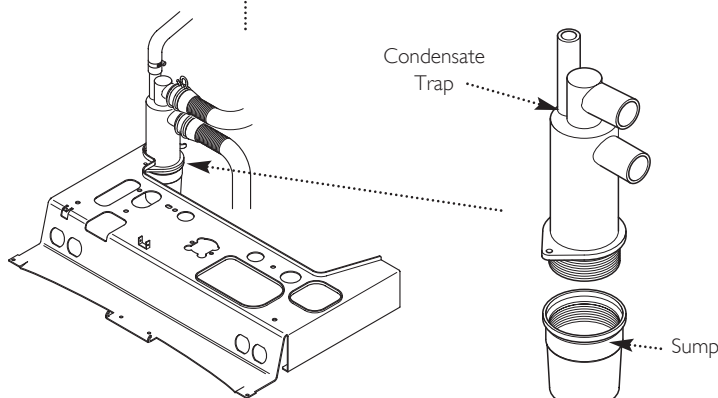

Fig. 64
5. Unscrew the sump from the bottom of the condensate trap assembly (Fig. 64) and remove any deposits from the sump and trap. Clean as necessary and replace the sump